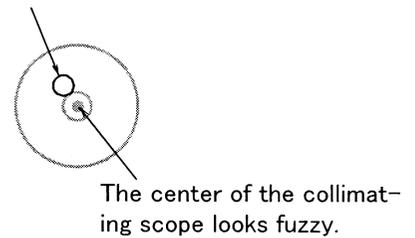
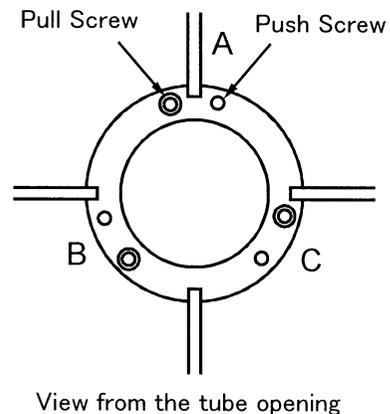

Fig.2
Fig.3
2. From this focusing point, if you slide the focus tube slightly outward, focus will be on the secondary mirror's center dot (Fig.2).
3. If the mirrors are collimated the secondary mirror's center dot and the center of the collimating telescope will overlap and create concentric circles. However, if the secondary is not collimated as shown in Fig.2, then the Secondary mirror must be adjusted.
4. In a case shown in Fig. 2, loosen the push screw (A) and (C) in Fig.3 and tighten the push screws to center the center mark. By sliding the focus tube of the collimating telescope, while checking the spider and center dot's focus and adjusting each screw, find a place where the center dot and the secondary mirror center overlap. Then, the secondary mirror is completely collimated.